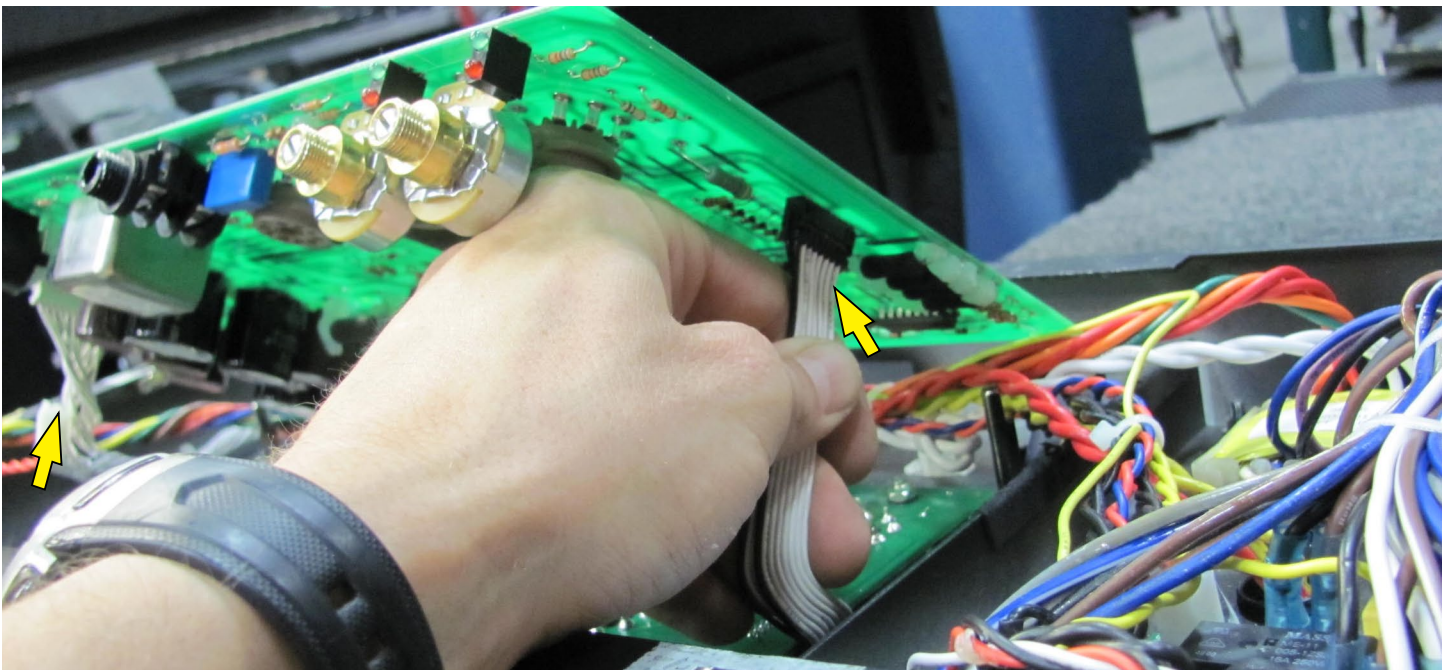

Figure 15a
15. Once accessible disconnect both the preamp cable on the left and the tube board cable on right of the underside of the PCB board , See Figure 15a.